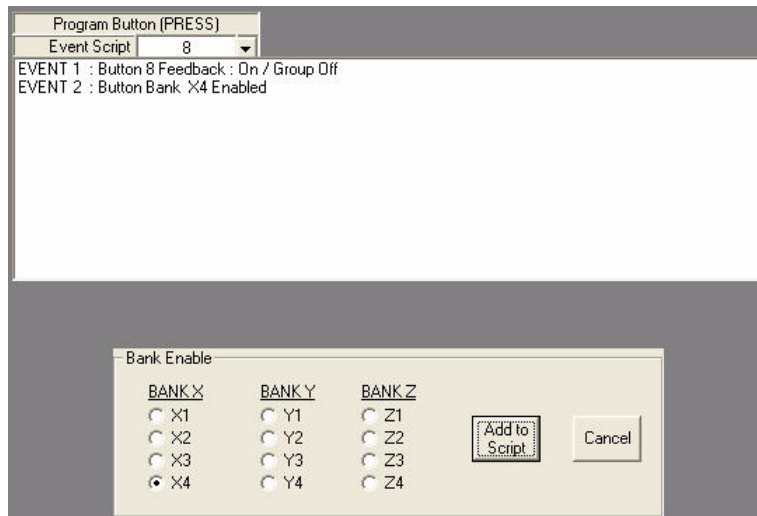

FIG. 98 Button 8 script, with Enable X4 Bank selected
9. Write a script for the Tuner select button including enable Bank X4 in the script (FIG. 98).